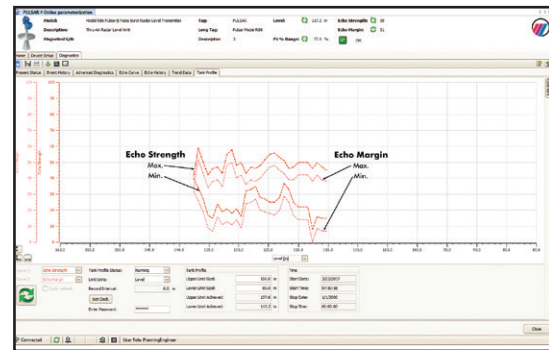

Figure 2. Tank profile graph showing collection of minimum and maximum values for echo strength and echo margin
**Look for areas of poor minimum echo strength values.** In the example shown in Figure 2, ~118" of level is 10, which is dangerously close to a loss of echo. At that same point, the maximum echo strength is only 48, which allows plenty of head room for increasing the amplitude of the echo by increasing a gain parameter.